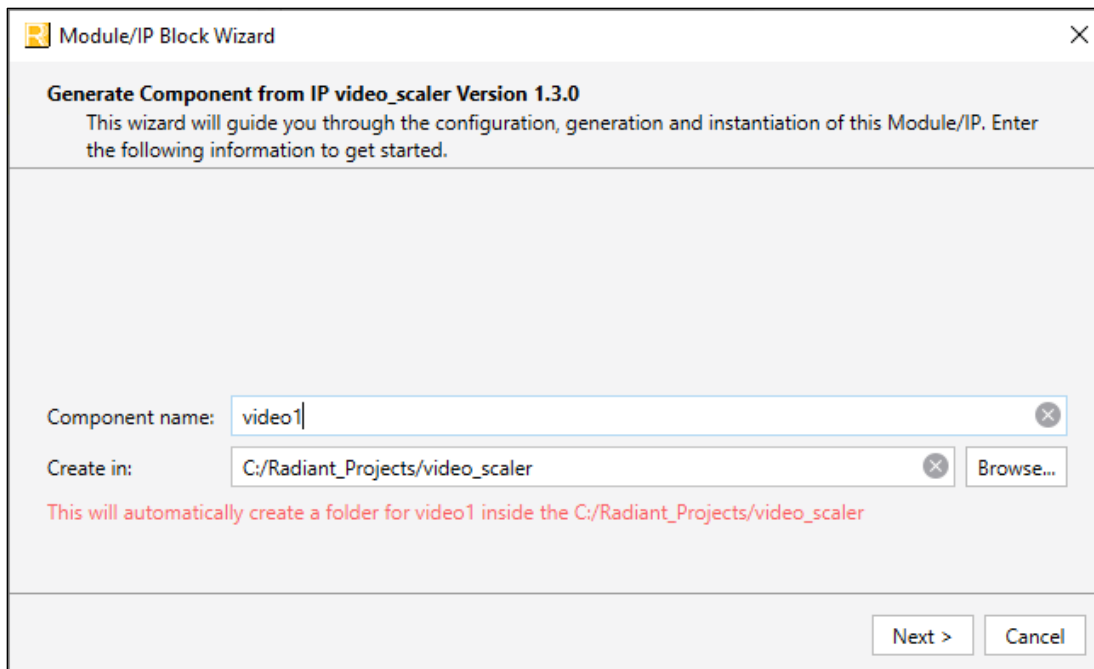

Figure 6.1. Module/IP Block Wizard
- a. The **Module/IP Block Wizard** opens as shown in Figure 6.1.
- Click **Finish**. All the generated files are placed under the directory paths in the Create in and the **Component name** fields are shown in Figure 6.1.